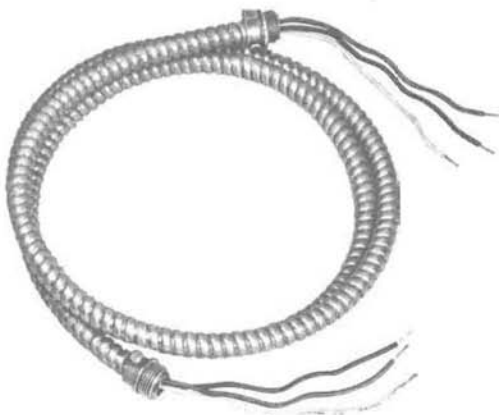

Fig. 6—KS-19425, List 24 Power Cable Assembly
- (c) **KS-19425, List 24 power cable assembly (Fig. 6):** Used to bring power from the KS-19426, List 17 circuit breaker box to the